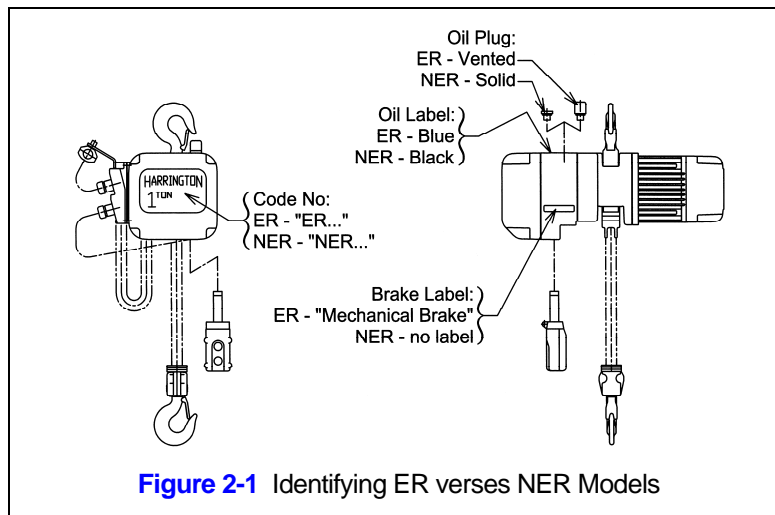

Figure 2-1 Identifying ER verses NER Models
- 2.1.2 ER and NER Models - Harrington ER series hoist are available in two versions, the ER and NER. These two versions are equipped with different options as standard equipment. The NER has a friction clutch mechanism that provides over winding protection. The ER has a mechanical load brake/friction clutch combination and an electronic count/hour meter in the control circuit. Refer to Figure 2-1 for the visual differences between the ER and NER.